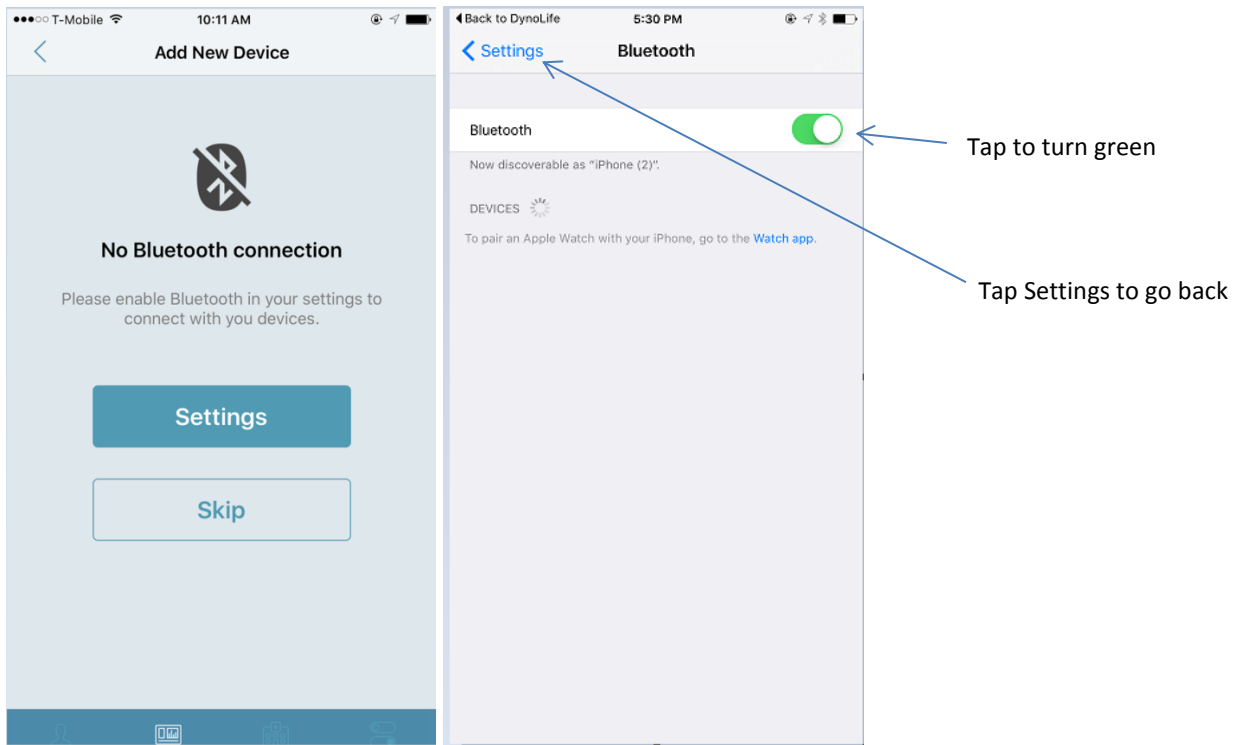

Figure-7
- Tap on “Capture” before pairing the device with iPhone (Figure-7)